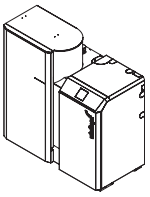

Fig. 70 Cut through web at top and bottom
- ▶ Cut through the web at the bottom and the top on the rear left cladding (Fig. 70) and bend the cladding slightly – Fig. 71.